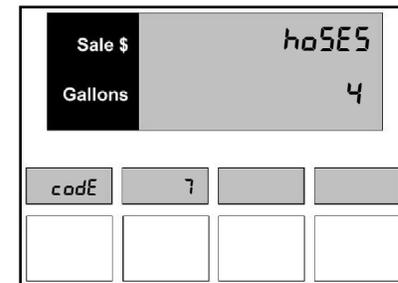

Figure 7.4 - Hoses
8. Once **Enter** has been pressed, the number of hoses appears in the main display. The default setting is for 1 hose per side of the dispenser as shown in *Figure 7.4*. **Note:** When setting the number of hoses this is per side of the dispenser.